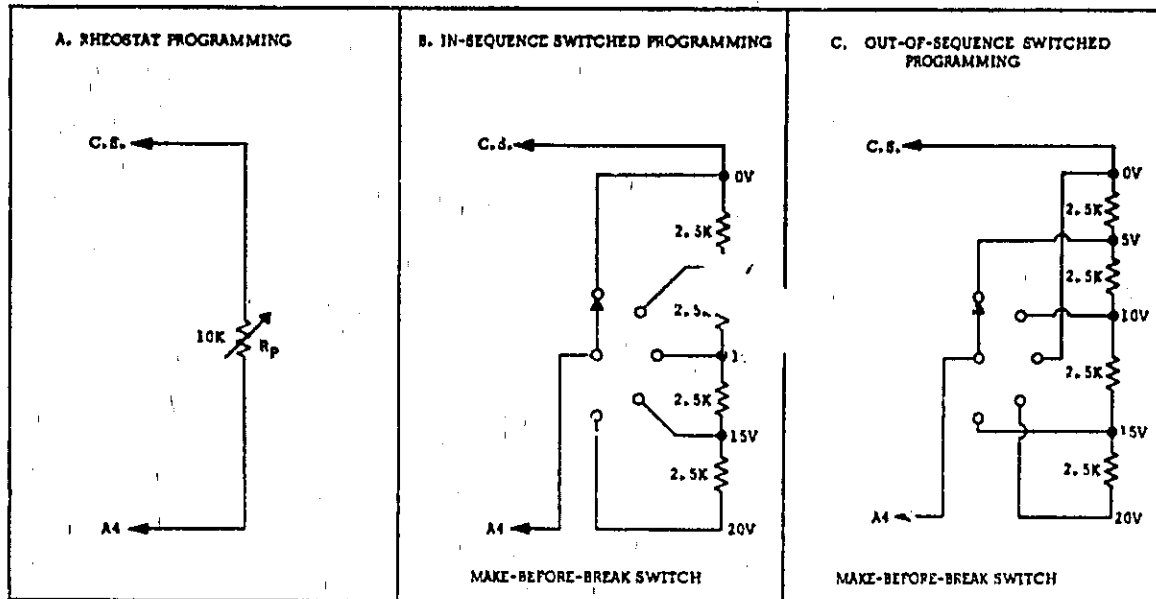
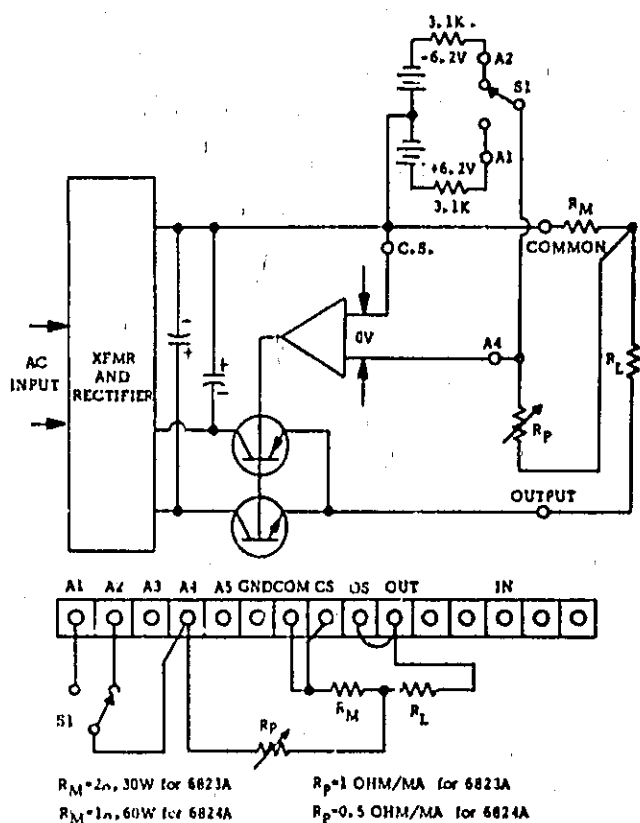

Figure 3-10. Switched Resistor Substitutes
Figure 3-18. Remote Resistance Programming, Bipolar Output (CC)
3-45 If it is desired to achieve accurate programming reproducibility, or if it is necessary to repeatedly set the power supply output to specific voltage values, either of the substitute arrangements suggested by Figure 3-10(B) and 3-10(C) may be employed in place of the rheostat R_p. Suppose, for example, it is decided to set the power supply over the span from 0-20V. If continuous adjustment is required, the best choice would be a 10K rheostat (since the programming coefficient is 500 ohms/volt). But if specific tests must be made at 0, 5, 10, 15, and 20V, the arrangement shown in Figure 3-10(B) should be employed, using a make-before-break switch. If the same voltage values are desired, but not in ascending or descending sequence, the terminals from the resistor string can be connected to the switch in any desired sequence, as suggested by Figure 3-10(C).
3-74 Figure 3-18 shows one method of controlling the output of the PS/A as a remote programmed Constant Current power supply. Switch S1 causes the output current to be either positive or negative. If it is desired to achieve only a positive or only a negative output current (unipolar output), then S1 must be eliminated. Terminal A4 is strapped directly to A2 for a positive output, or directly to A1 for a negative output.
3-75 The front panel FINE/ZERO control permits the output current to be adjusted to zero when Rp is set to zero, while the slope of the programming coefficient is adjusted by means of R38 (positive output) and R39 (negative output). Either of the switched resistance schemes of Figure 3-10 may be substituted for a variable Rp in this or any other Constant Current diagrams which follow. The advantage of the circuit of Figure 3-18 is that the output current is a linear function of the programming resistance; the disadvantage is that a switch must be used in order to accomplish polarity reversing.